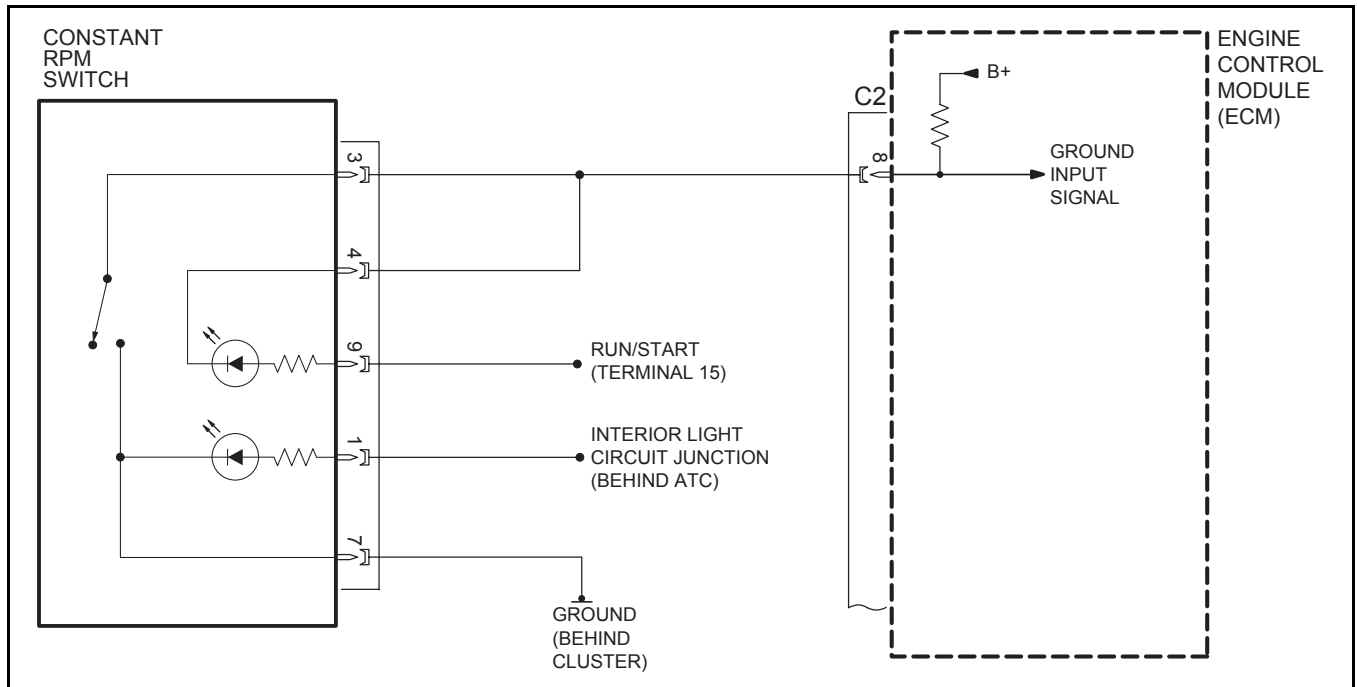

Figure 21 Constant RPM Switch Wiring Diagram
23. Verify the position of the wires with the schematic on Figure 21.